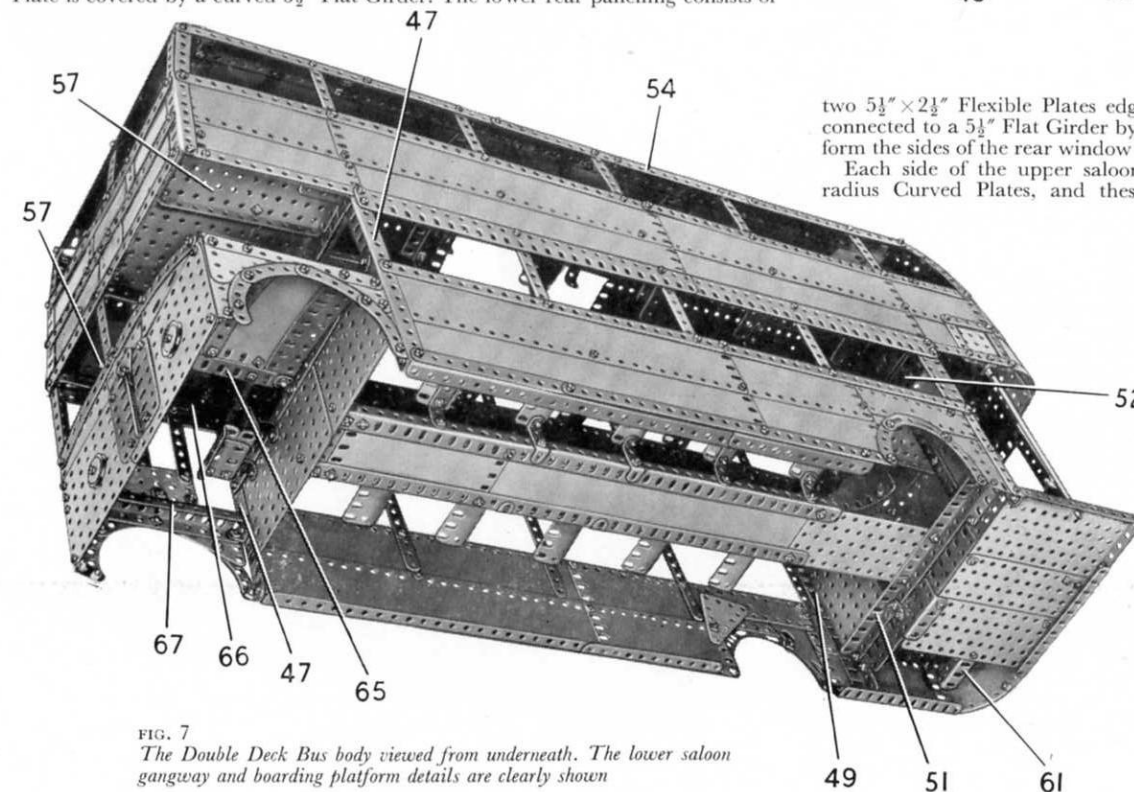
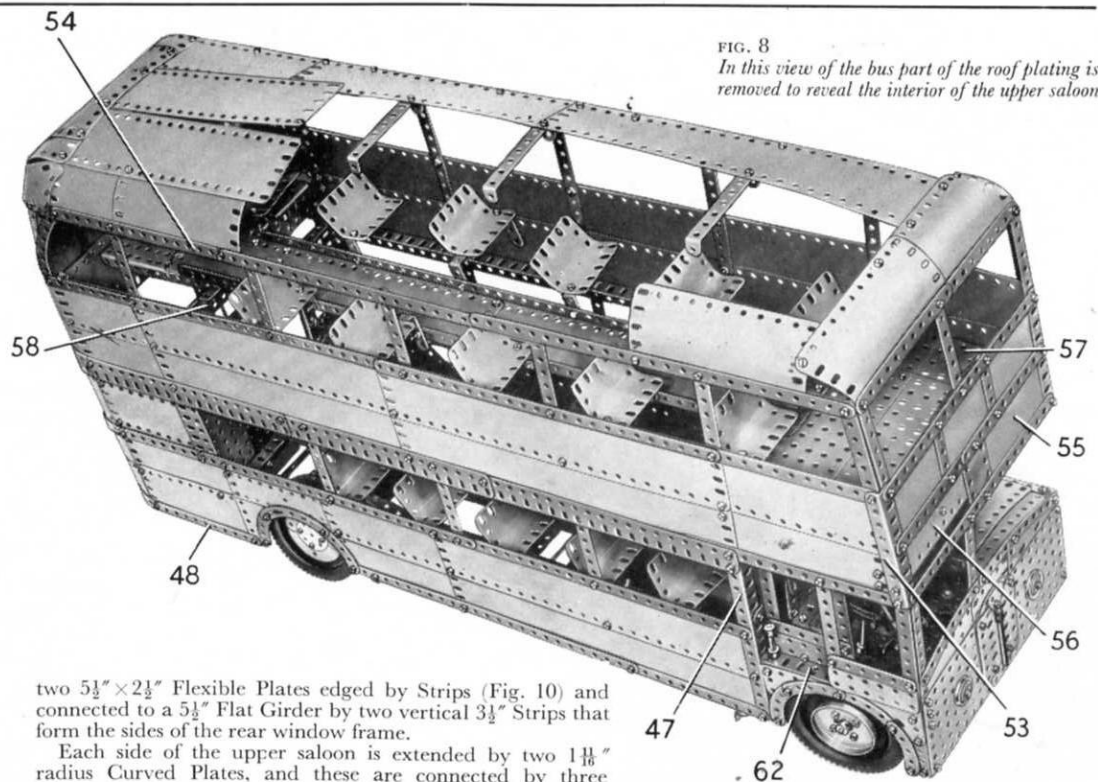

FIG. 7
FIG. 8
The Lower Saloon (Figs. 8 and 9)
The side seen in Fig. 8 consists of two $12\frac{1}{2}" \times 2\frac{1}{2}"$ Strip Plates and four $5\frac{1}{2}" \times 2\frac{1}{2}"$ Flexible Plates, with a $5\frac{1}{2}" \times 1\frac{1}{2}"$ Flexible Plate and a $3\frac{1}{2}" \times 2"$ and a $2\frac{1}{2}" \times 1\frac{1}{2}"$ Triangular Flexible Plate over the rear wheel arch. The Plates are fixed to a $7\frac{1}{2}"$ Angle Girder (47) at the front, and are edged along the top by two $12\frac{1}{2}"$ Strips and a $5\frac{1}{2}"$ Strip. The lower edges are strengthened by a $12\frac{1}{2}"$ Strip, a $5\frac{1}{2}"$ Strip and a $5\frac{1}{2}"$ Angle Girder (48), with a $12\frac{1}{2}"$ and a $5\frac{1}{2}"$ Angle Girder bolted to the inside (Fig. 7). A $9\frac{1}{2}"$ Angle Girder (49) is fixed vertically to the side, and to it are bolted a $4\frac{1}{2}" \times 2\frac{1}{2}"$ Flexible Plate and a $3\frac{1}{2}"$ Flat Girder. The window divisions are $12\frac{1}{2}"$ Strips, each of which overlaps the side by four holes. These Strips are connected by three $9\frac{1}{2}"$ Flat Girders. A $24\frac{1}{2}"$ Angle Girder is bolted along the top row of holes in the Flat Girders, on the inside, starting at the Girder (49) so that it overhangs the Girder (47) by three holes.
The sides are connected at the front by two $5\frac{1}{2}" \times 3\frac{1}{2}"$ Flat Plates overlapped three holes and edged at the top by a $9\frac{1}{2}"$ Strip. The Flat Plates are fixed to the Girders (47), and a $9\frac{1}{2}"$ Angle Girder (50) is bolted between their top ends. A vertical $5\frac{1}{2}" \times 1\frac{1}{2}"$ Flexible Plate is attached to the centre of the Girder (50) and to the Flat Plates. At the rear the sides are connected by $9\frac{1}{2}"$ Angle Girders (51) and (52) (Fig. 7), bolted to the Girders (49).
The side seen in Fig. 8 consists of two $5\frac{1}{2}" \times 2\frac{1}{2}"$ Flexible Plates, four $12\frac{1}{2}" \times 2\frac{1}{2}"$ Strip Plates and two $4\frac{1}{2}" \times 2\frac{1}{2}"$ Flexible Plates. These are fixed to the vertical $12\frac{1}{2}"$ Strips that form the window divisions. At the front a $4\frac{1}{2}"$ Angle Girder (53) is connected to the top edge of the lower saloon by a $7\frac{1}{2}"$ Strip. The top edges of the Plates are strengthened by two $12\frac{1}{2}"$ Strips and two $5\frac{1}{2}"$ Strips. A built-up strip (54), made from three $12\frac{1}{2}"$ Strips, is bolted to the top ends of the window divisions. In addition to the vertical $12\frac{1}{2}"$ Strips, two $5\frac{1}{2}"$ Strips, a 4" Curved Strip and a $3\frac{1}{2}"$ Strip at the front, are used to form the windows of the upper saloon.
At the front of the bus the Girders (53) are connected by two $9\frac{1}{2}$ " Strips and a built-up strip made from two $5\frac{1}{2}$ " Strips overlapped three holes (Fig. 8). The front is plated by three $3\frac{1}{2}$ " \times $2\frac{1}{2}$ " Flexible Plates at the top, with one half of a Hinged Flat Plate (55), a $2\frac{1}{2}$ " \times $1\frac{1}{2}$ " Flexible Plate and a $5\frac{1}{2}$ " \times $1\frac{1}{2}$ " Flexible Plate (56) below them. The Plate (56) is extended upward by another $5\frac{1}{2}$ " \times $1\frac{1}{2}$ " Flexible Plate, and this is recessed from the $3\frac{1}{2}$ " \times $2\frac{1}{2}$ " Flexible Plates by nuts on the bolts that fix them together. The front ends of the strips (54) are connected by Angle Brackets to two $5\frac{1}{2}$ " Strips overlapped three holes.
A $5\frac{1}{2}$ " \times $2\frac{1}{2}$ " Flanged Plate (57) (Fig. 7) is bolted to each side, and these are connected by a $5\frac{1}{2}$ " \times $3\frac{1}{2}$ " Flat Plate and a $5\frac{1}{2}$ " \times $2\frac{1}{2}$ " Flat Plate. At the rear a $9\frac{1}{2}$ " Flat Girder (58) is bolted between the top ends of the Girders (49) and a $5\frac{1}{2}$ " \times $2\frac{1}{2}$ " Flanged Plate is fixed between this Flat Girder and the rear panelling. Two $4\frac{1}{2}$ " \times $2\frac{1}{2}$ " Flexible Plates secured to the Flanged Plate provide a cover over the boarding platform. A $4\frac{1}{2}$ " Angle Girder is fixed to the centre of the Flat Girder (58).
Rear Panelling and Boarding Platform (Figs. 7, 8 and 10)
The side of the lower saloon seen in Fig. 8 is extended at the rear by three curved $5\frac{1}{2}"$ \times $2\frac{1}{2}"$ Flexible Plates, the lower one edged by a Formed Slotted Strip at the bottom, and by a curved $5\frac{1}{2}"$ Strip along its top edge. The lower edge of the top Plate is covered by a curved $5\frac{1}{2}"$ Flat Girder. The lower rear panelling consists of
The platform floor is formed by a $5\frac{1}{2}"$ \times $3\frac{1}{2}"$ and two $5\frac{1}{2}"$ \times $2\frac{1}{2}"$ Flat Plates edged by $5\frac{1}{2}"$ Angle Girders as shown (Figs. 7 and 10). A built-up flat girder, made from a $7\frac{1}{2}"$ and a $2\frac{1}{2}"$ Flat Girder, is bolted to a $9\frac{1}{2}"$ Strip fixed across the Girders (49) and is connected to the floor by a Girder Bracket.
The Bonnet and Cab (Figs. 8 and 9)
The off-side of the cab is made by attaching a $5\frac{1}{2}$ " Angle Girder (62) (Fig. 8), to the Girder (47) by means of an Angle Bracket. The front end of the Girder (62) is connected to the Girder (53) by a $5\frac{1}{2}$ " Strip. The side is plated by a $2\frac{1}{2}$ " \times $1\frac{1}{2}$ " and a $2\frac{1}{2}$ " \times $2\frac{1}{2}$ " Triangular Flexible Plate, and by a 3 " \times $1\frac{1}{2}$ " Flat Plate.